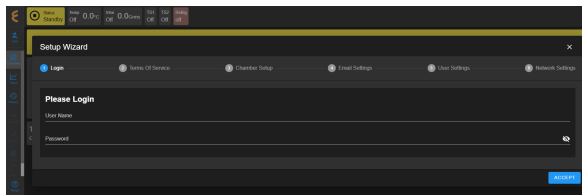

Figure 1.9: Login prompt in the Setup Wizard page.
7. The user interface of EWC appears in the Web browser as depicted in Figure 1.9.